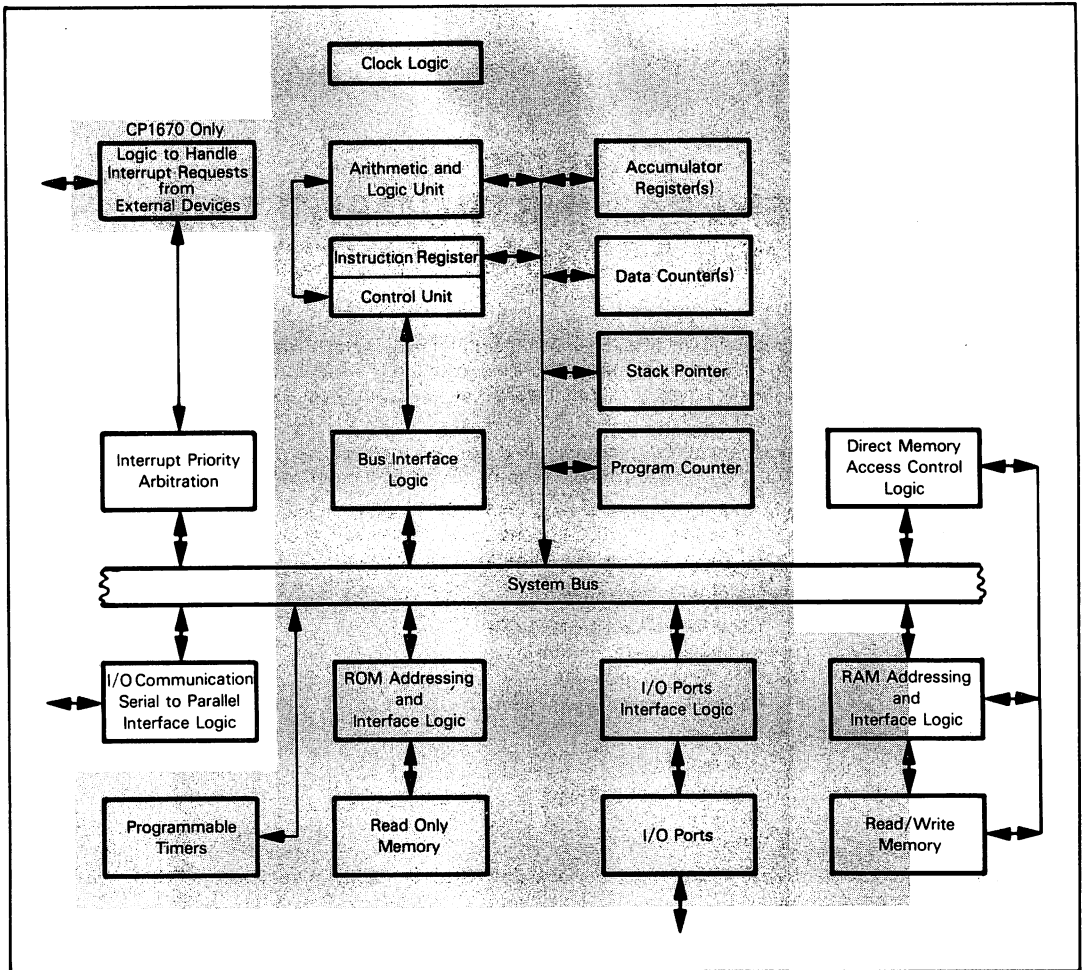

Figure 15-1. Logic of the 1650 Series Microcomputers
**Figure 15-1 illustrates that part of our general microcomputer system logic which is implemented on the 1650 series one-chip microcomputers.** Once again, we must warn against making direct comparisons using these figures: logic shown as present says nothing about the extent to which the logic has been implemented. Read/write memory is shown only half present because between 11 and 39 bytes of on-chip read/write memory are provided by the various 1650 options. 64 words is the smallest amount of read/write memory provided by any other one-chip microcomputer.